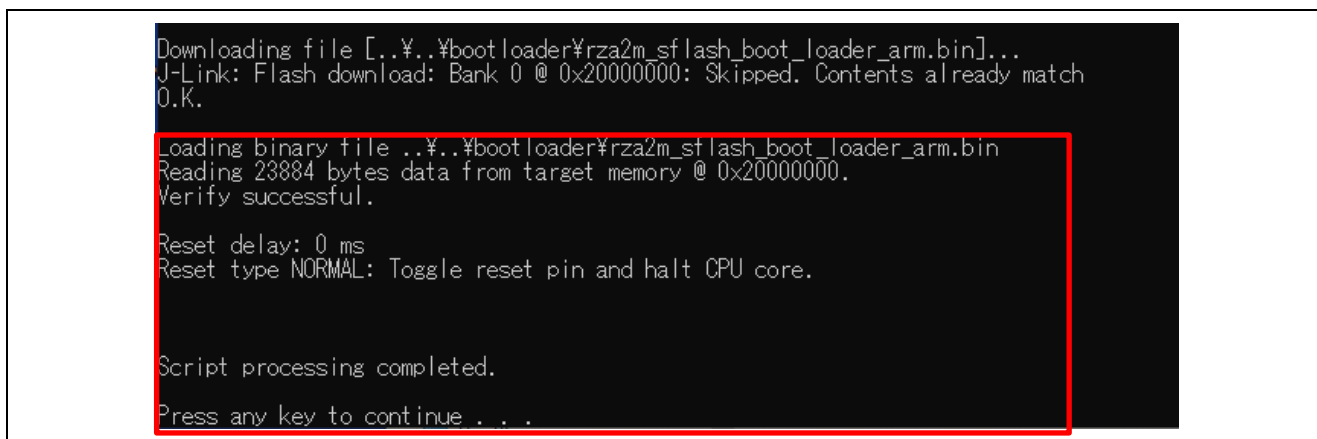

Figure 3-11 Download boot loader program (2/2)
- When the download is completed successfully, the following will be displayed on the command prompt. This is shown in Figure 3-11.